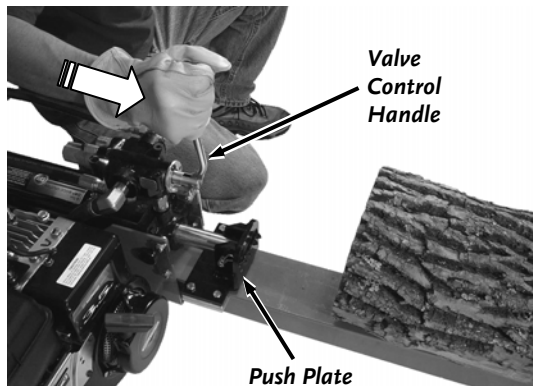

Figure 30
6. Hold the Valve Control Handle, extending the Push Plate (Figure 30), until the log is split or the cylinder rod stops at its maximum travel position. Stop the Wood Splitter (forward movement), at any point in the splitting process, if you feel an unsafe splitting condition is occurring. As the log is being split, DO NOT reach forward and attempt to catch the split wood — let it fall to the ground.